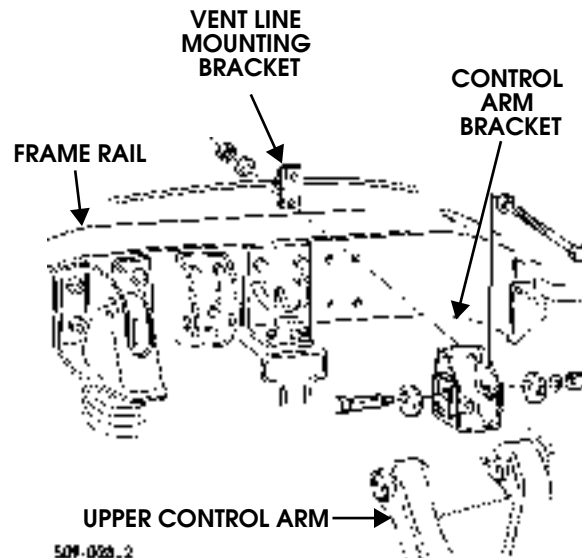

Figure 9-139: Rear Upper Control Arm Bracket Replacement
3. Remove two locknuts, washers, bolts, washers, and upper control arm from two control arm brackets (Figure 9-139).
1. Install control arm bracket, and vent line mounting bracket on frame rail with four washers, bolts, washers, and locknuts. Tighten locknuts to 172 lb-ft (233 N•m) (Figure 9-139).